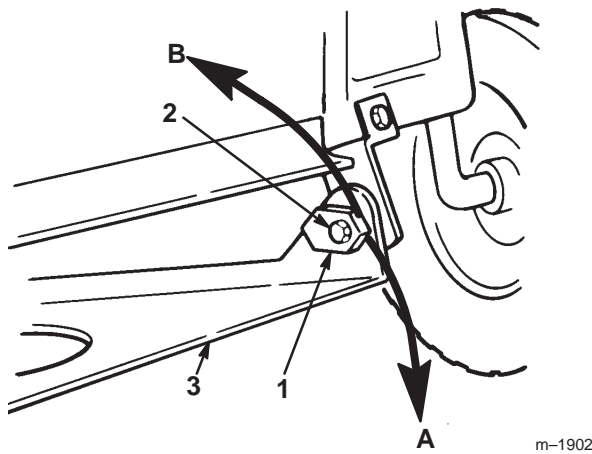

Figure 51
- Adjust the front-to-rear slope by rotating the special slope adjusting nuts on both sides of the mower pivot mount (Fig. 51).
- Using a 1 in. wrench or socket, slowly rotate the left side slope adjusting nut down to raise the front of the mower and up to lower it (Fig. 51). Rotate the slope adjusting nut until the front of the mower is 1/4 to 5/8 in. (6 to 16 mm) lower than the rear of the mower.